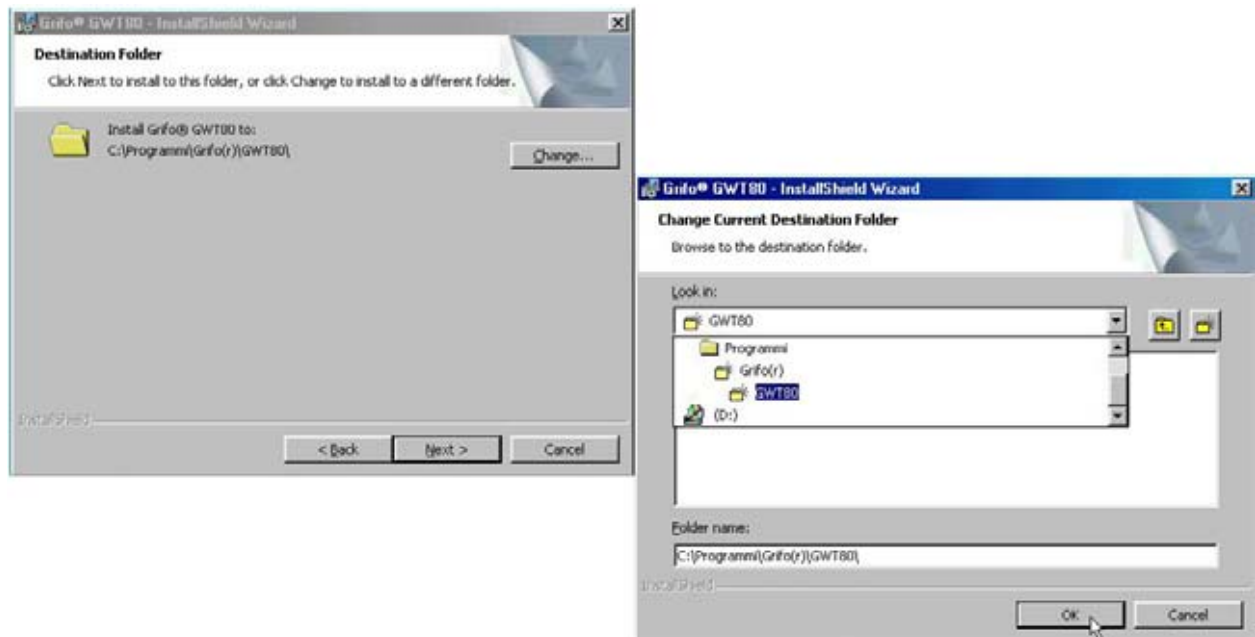

FIGURE 5: SELECTION WINDOWS FOR INSTALLATION FOLDER
- 8) By pushing the *Next >* button the installation program is closed if the user has not accepted the license, viceversa it shows the following window that let the user select the *Destination Folder* of **GWT80**. Normally it is suggested the default folder *C:\Programmi\Grifo(r)\GWT80* but the user can easily modify it with the *Change...* push button; in this circumstance it is displayed a typical selection window that allows also to create new folders (see figure 5). In case the user has already installed **GDOS 80** software tools, he can conveniently select the same folder, obtaining a complete working structure in a single point of PC.